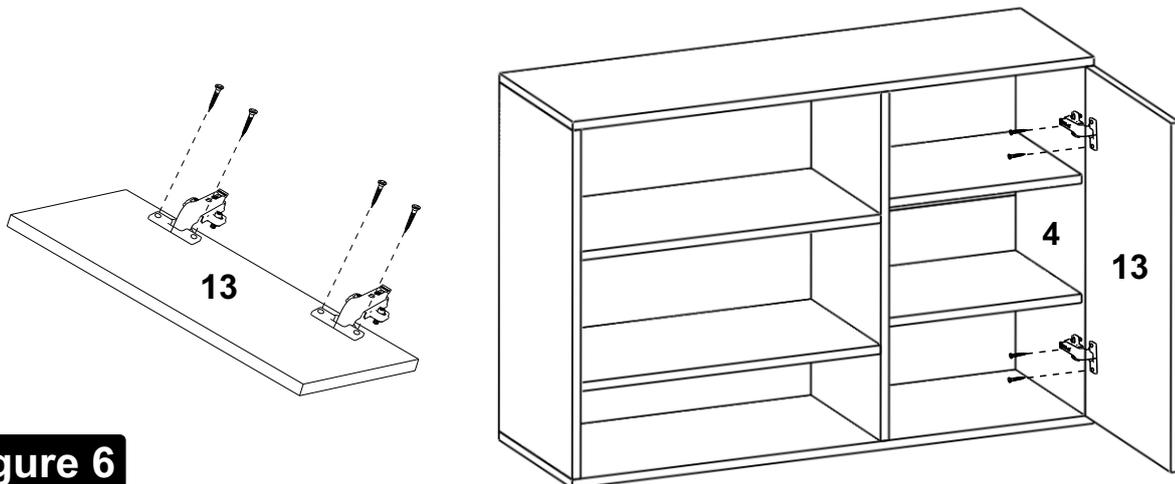

Figure 6
Step 7 : Join **Board 4 & 13** as shown in Figure 6. Fix the **Door Hinges** with the help of **(2 x 4 screw)** on **Board 4 & 13** fasten it with **Screw Driver** as shown.